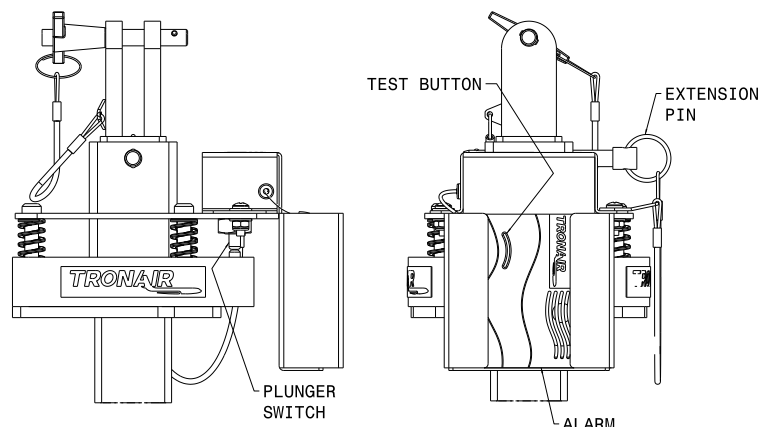

FIGURE 4
**Reference Figure 4.** Refer to Trouble Shooting section of this manual if test fails.